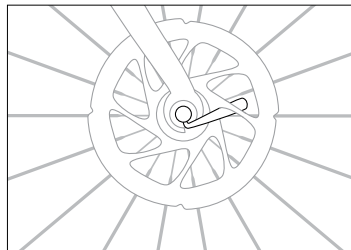

Figure 2.4
2. Tighten the quick release making sure that it is properly positioned within the dropouts and closed. If the quick release is not closed correctly (in-line with the chain stay), the lever can catch in a disc brake rotor (Figure 2.4).